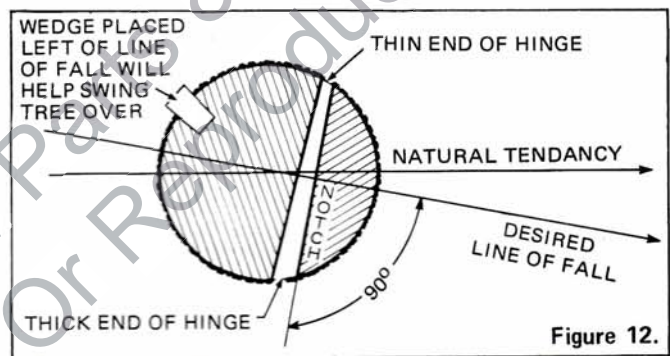

Figure 12.
- The tree can be made to swing a few degrees either to left or right of the natural direction of fall by leaving the hinge wood a bit thicker on the side toward which you favor the tree to fall as shown in Figure 12.